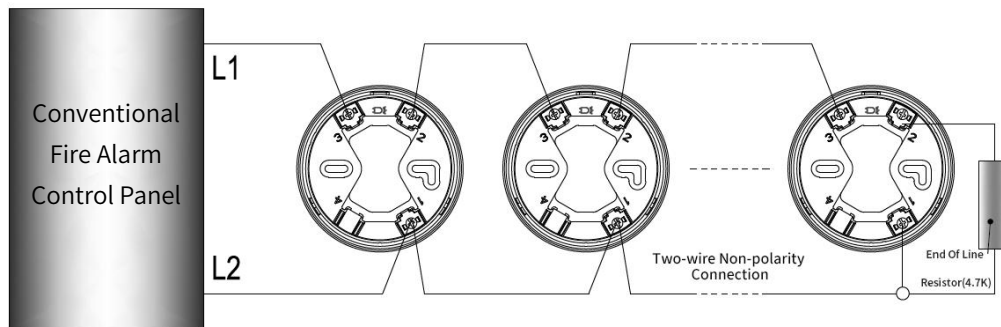

Fig.3
Note: Pins 2 and 3 are shorted through the inside of the detector and cooperate with the controller to detect whether the detector is online (see Fig.3).
- a. The detector access to the Conventional Fire Alarm Control Panel wiring diagram, as shown in Fig.3: